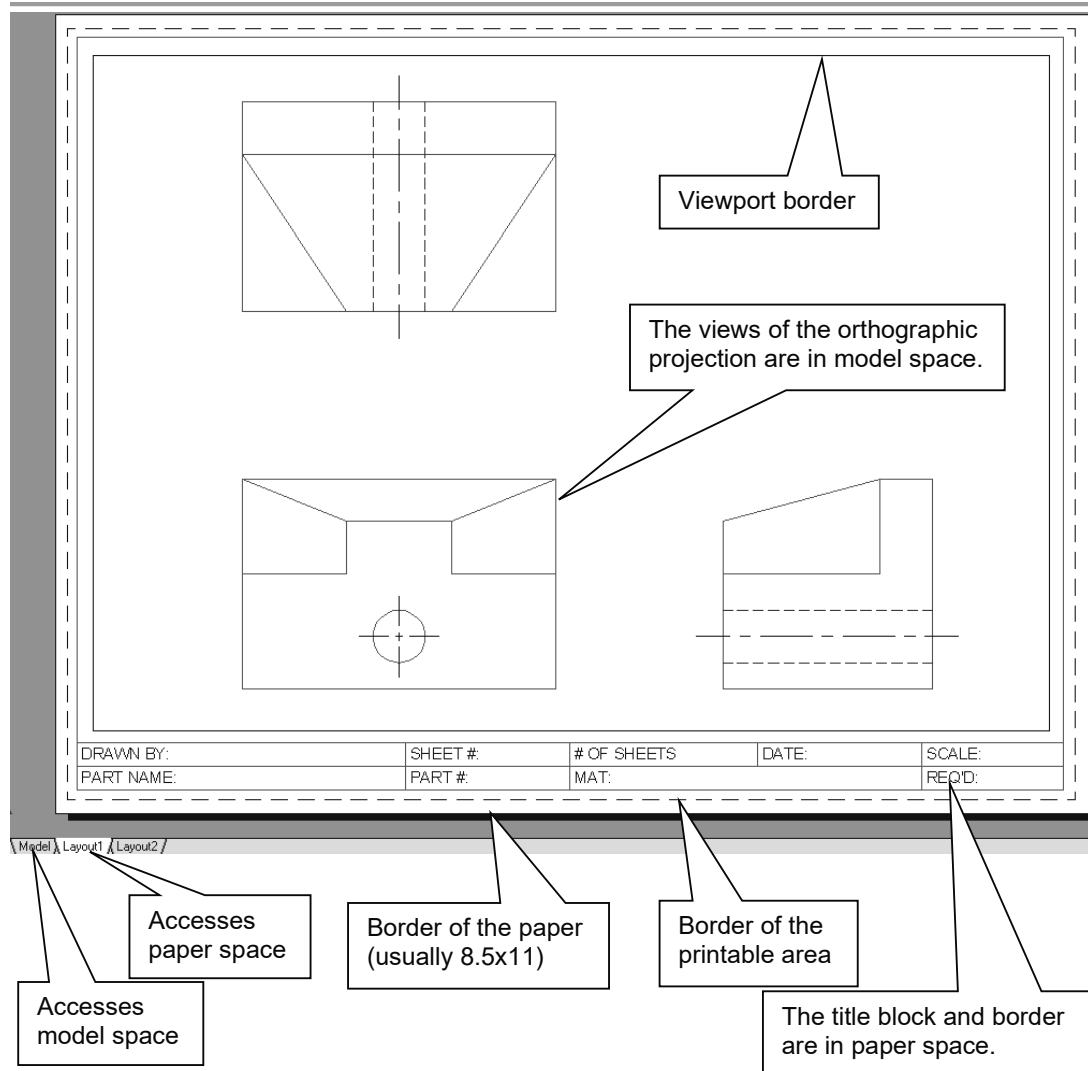

Figure 5.8-1: Paper space
- With annotative scaling, it is not necessary to calculate the appropriate dimension and text scale. Annotative scaling will be discussed in detail in the “*Dimensioning in AutoCAD®*” chapter. Figure 5.8-1 shows an example of what you would see in paper space before plotting.